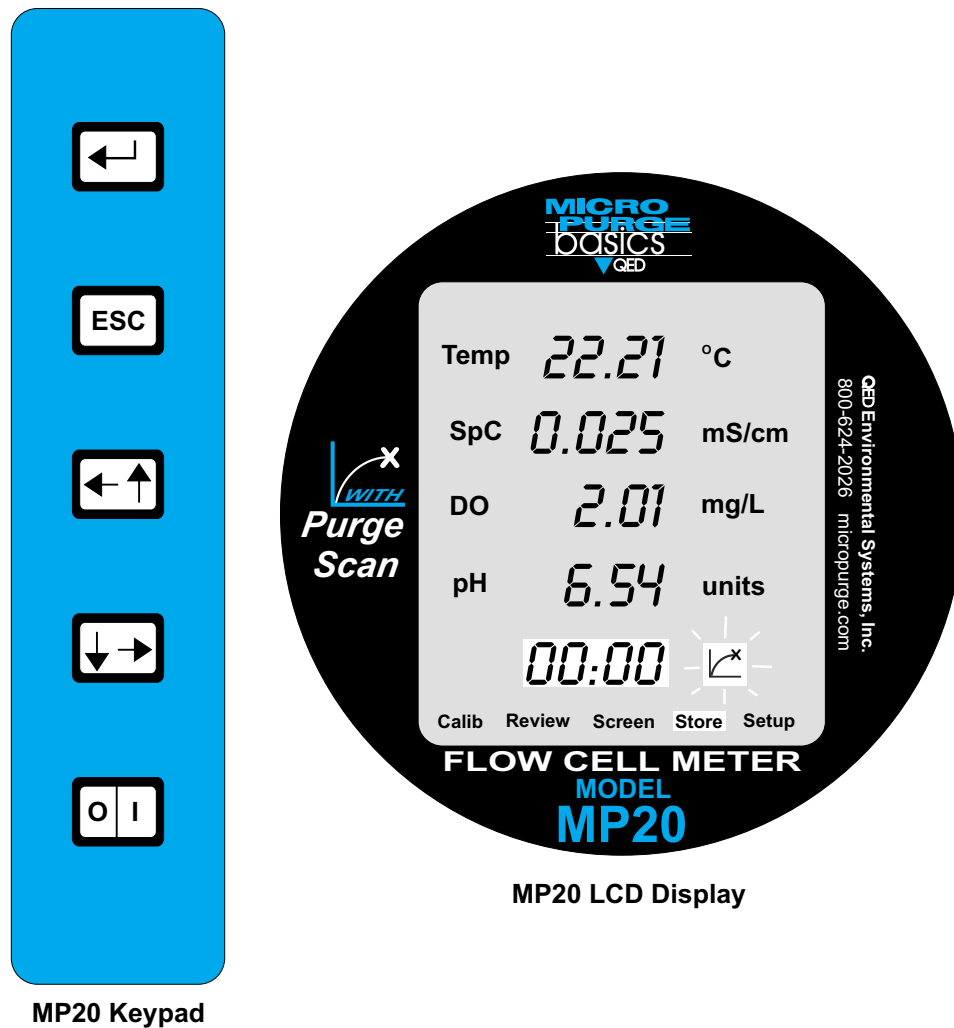

Figure 6
15. When the final purge rate is achieved, record the ID value and pressure settings from the MP10/MP15 controller, then initiate PurgeScan on the MP20 Flow Cell by pressing the “RIGHT”  arrow key once to highlight "STORE", then pressing "ENTER" . This begins a PurgeScan stabilization cycle, starting at 00:00 elapsed time at the bottom (See Figure 6 Below) of the MP20 display, including automatic storage of key data frames. If it is desired to restart PurgeScan, press “ESC” , then "RIGHT" arrow  and "ENTER"  again.